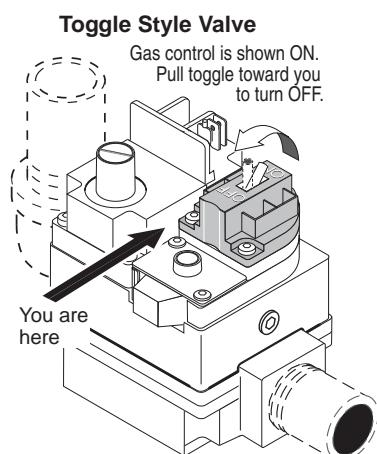

Figure 29.
6. **Toggle-Style Valve:** Pull toggle toward you to turn gas off, see Figure 29.
7. Wait five (5) minutes to clear out any gas. If you then smell gas, **STOP!** Follow “B” in the “Before Start-up” instructions (page 32). If you don’t smell gas, go to the next step.
4. **Toggle-Style Valve:** Pull toggle toward you to turn gas off, see Figure 29.